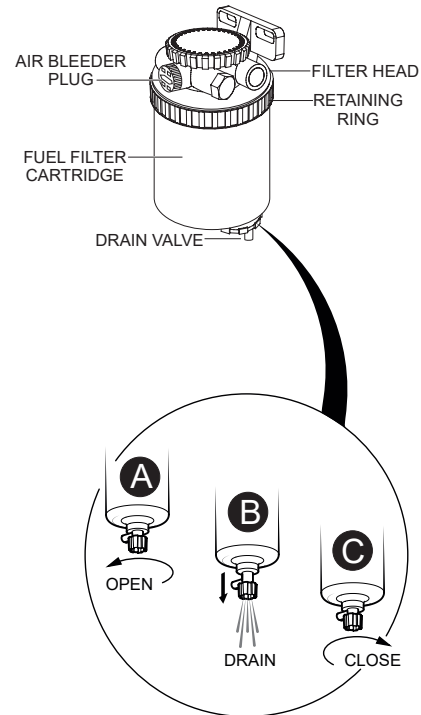

Figure 69. Draining The Fuel Filter
1. Loosen the air bleeder plug (Figure 69) on the fuel filter head.